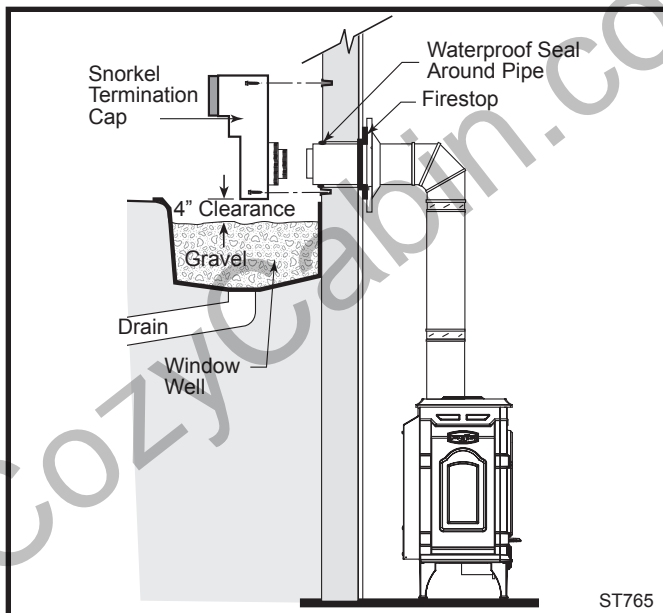

Fig. 28 Snorkel kit installation.
Install Snorkel Kit #7FSDVSKS when it is not possible to meet the required vent termination clearances of 12" (305mm) above grade level. The snorkel kit will allow installation depth of down to 7" (178mm) below grade level. The seven inches is measured from the center of the horizontal vent pipe as it penetrates the wall. **If the venting system is installed below grade, a window well must be installed with adequate and proper drainage. (Fig. 28)**
2. Remove soil to a depth of approximately 16" (406 mm) below the base of the snorkel. Install a window well (not supplied). Refill the hole with 12" (305mm) of coarse gravel and maintain a clearance of at least 4" (102 mm) below the snorkel. (Fig. 28)